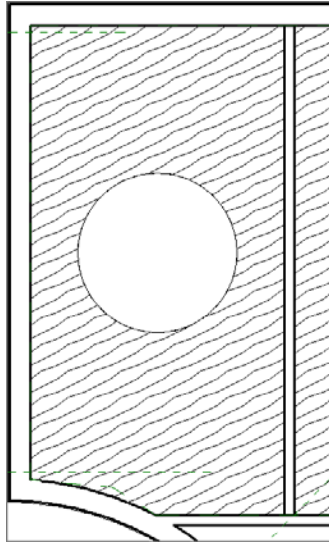

FIGURE 9.26: There's a hole in my ceiling!
10. Verify that your ceiling looks like Figure 9.26.